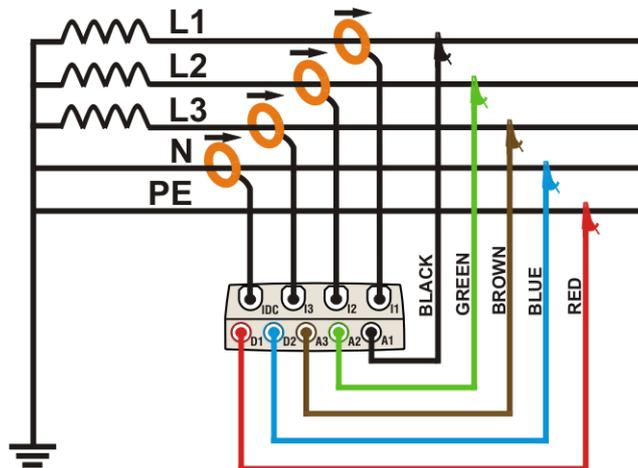

Fig. 255: Meter connection in a three phase 4-wire system
2. Connect voltage test leads on Phases L1, L2, L3, Neutral and Ground cables considering the colours as shown in Fig. 255. **Verify the result "123" at display relative to a correct phase sequence indication** (see § 5.2.1) and perform the corrections if necessary.
3. Connect the transducer current clamps on Phase L1, L2, L3 and Neutral N cables as shown in Fig. 255 respecting the clamp's arrow direction indicating the current standard sequence from generator to load. **On Real Time Values' section screens always verify the positive value of Active Power and the power factor relative to each load which should be normally inductive** before starting a recording. Reverse the clamp by 180 degrees on cables in case of negative readings.